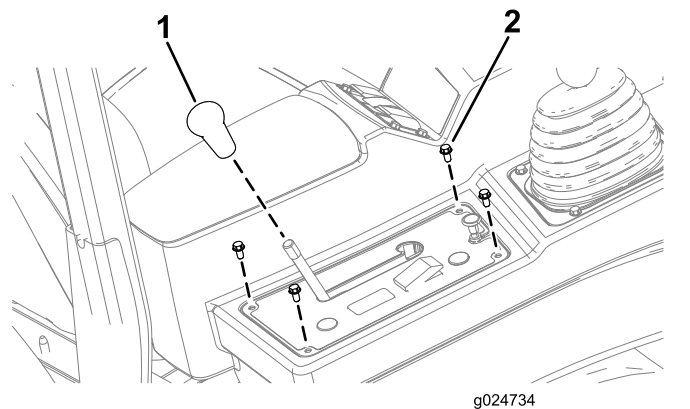

Figure 13
- Remove the knob from differential-lock rod (Figure 13).